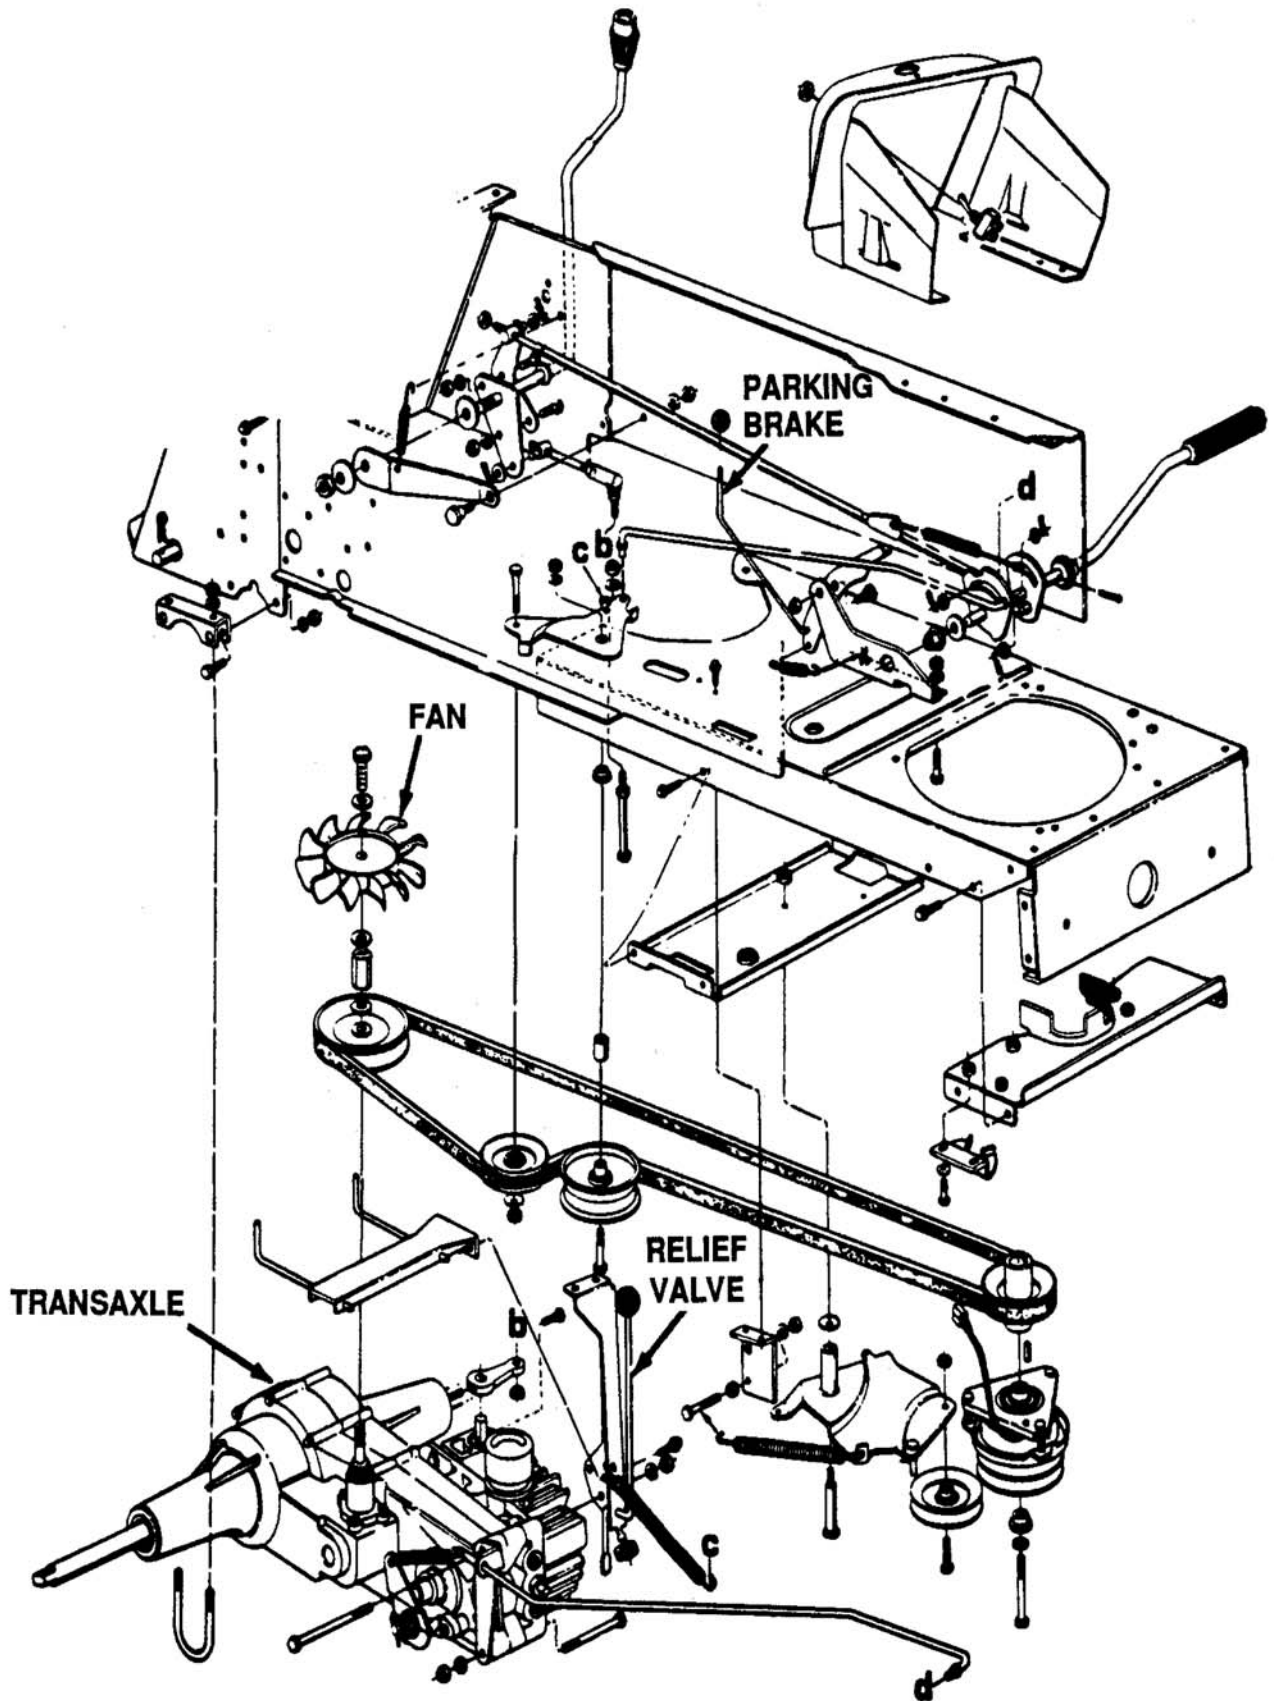

Figure 7-62. Hydrostatic Drive 700 Series
This 700 series drive system has a heavy-duty transaxle, part number 717-0950, coupled with a Sundstrand hydrostatic pump, part number 717-0940. They provide even running on all terrain with smooth increase or decrease of speed in either forward or reverse. A cooling fan for the hydro-pump is constantly driven by the engine by mounting it on the transmission input shaft. The hydrostatic pump also has a built-in self seeking neutral which allows the speed lever and hydrostatic pump to return to neutral when the clutch/brake pedal is depressed. See Figure 7-62.
**Relief Valve.** A hydrostatic relief valve is provided so the unit can be moved without the engine running. The lever which operates the relief valve is located on the console. To operate the relief valve, place the hydrostatic control level in neutral, release the parking brake, push the lever forward and to the right to lock. Be certain to release the lever by pushing it to the left before operating the engine. See Figure 7-62.